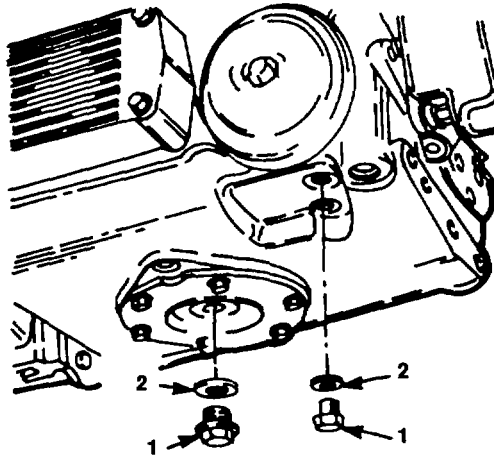

Figure 3-17. Changing Oil
- b. Unscrew drain plugs (1, figure 3-17) after placing suitable receptacle underneath.